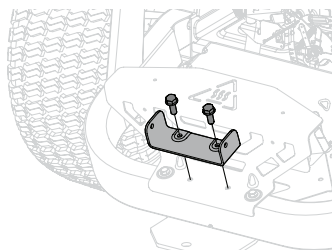

Figure 4
1. Align lower bracket (789-04279) with the holes on the lower rear tube of tractor frame with side flanges pointing up, secure with two self-tapping hex head screws (710-1238). See Figure 4.